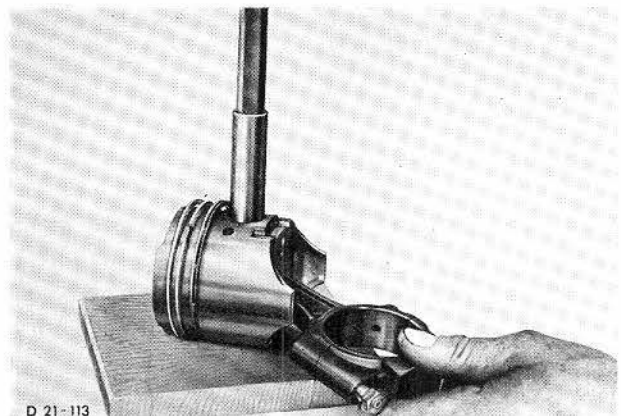

Fig. 101. Fit piston pin.
6. Slide piston pin in up to first circlip fitted earlier, Fig. 101. Fit second new circlip.